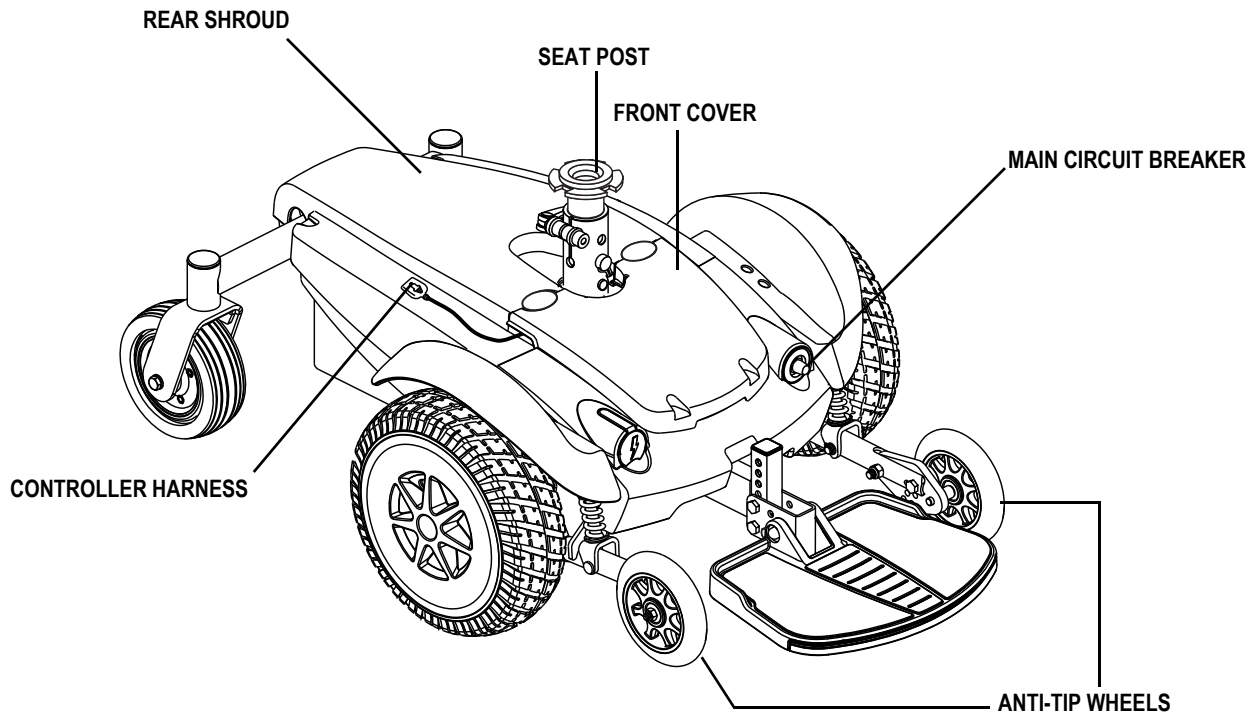

Figure 6. The Jazzy Select Power Base
The electrical components are located either on or inside the power base. The main circuit breaker is located on the front of the power base. The power module is located under the front cover. See figures 6, 7, 8, 9 and 10.
5. Plug the controller harness into the connector on the power base. See figure 6, 7 or 8.